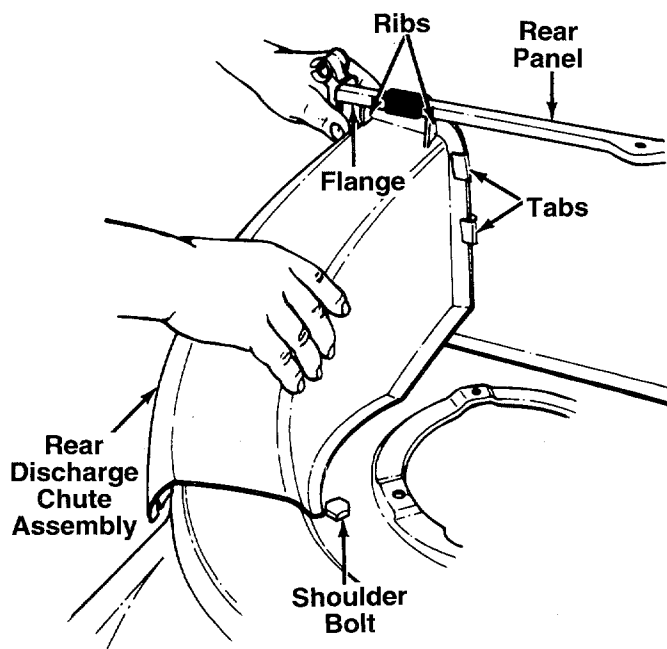

FIGURE 16.
- Slide the ribs on the discharge chute assembly under the flange on rear panel as you insert the side of the discharge chute under the two tabs. See figure 16.